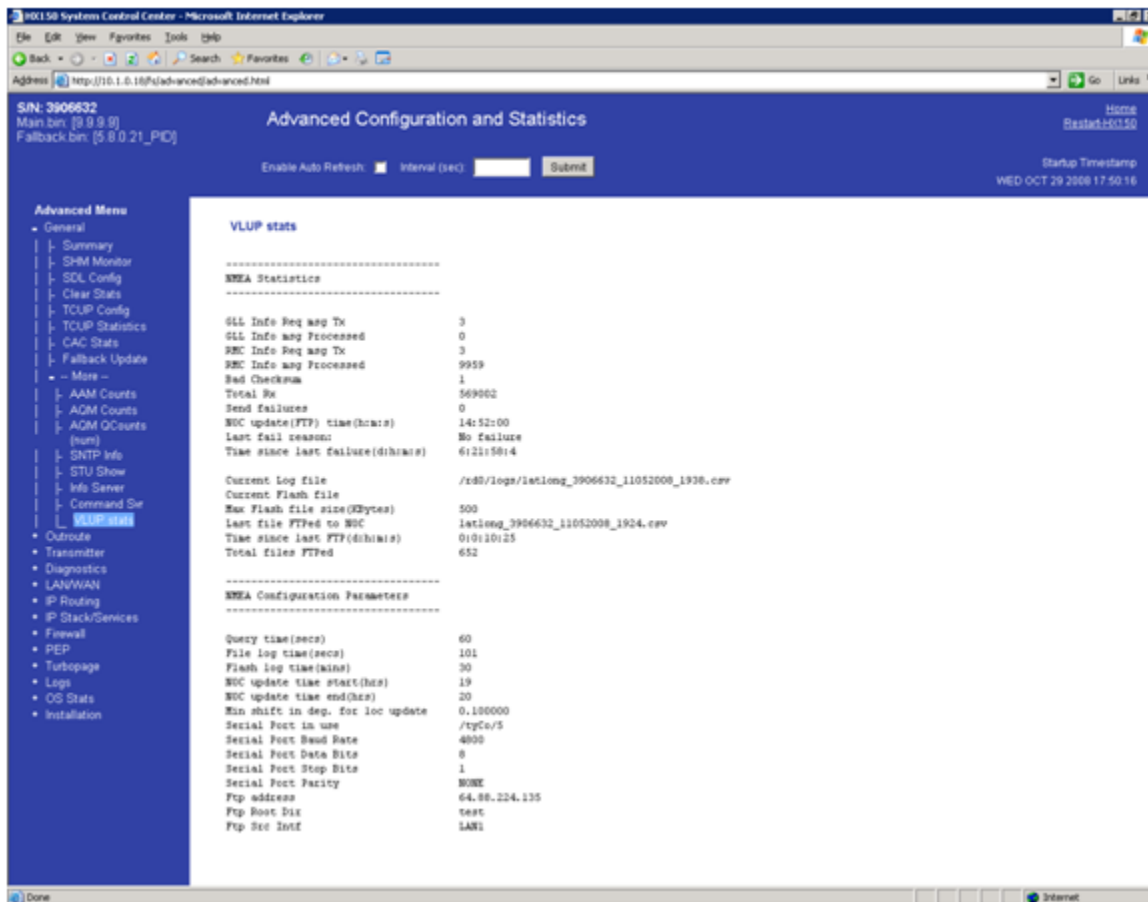

Figure 82: Advanced screen
- Verify in the HX200's Web interface that Total Rx and GLL Info or RMC Info msg Processed increases over a period of 5 minutes. Refer to Figure 82.